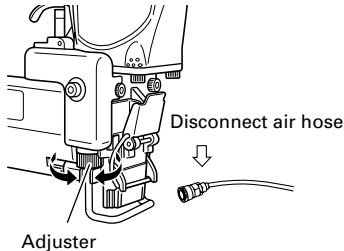

Fig. 7
- (1) the air pressure to the stapler remains constant (regulator is installed and working properly), and
- (2) the stapler is always held firmly against the workpiece. If staples are driven too deep or shallow into the workpiece, adjust the stapling in the following order. (See Fig. 7)
- ① DISCONNECT AIR HOSE.
- ② If staples are driven too deep, turn the adjuster to the shallow side.